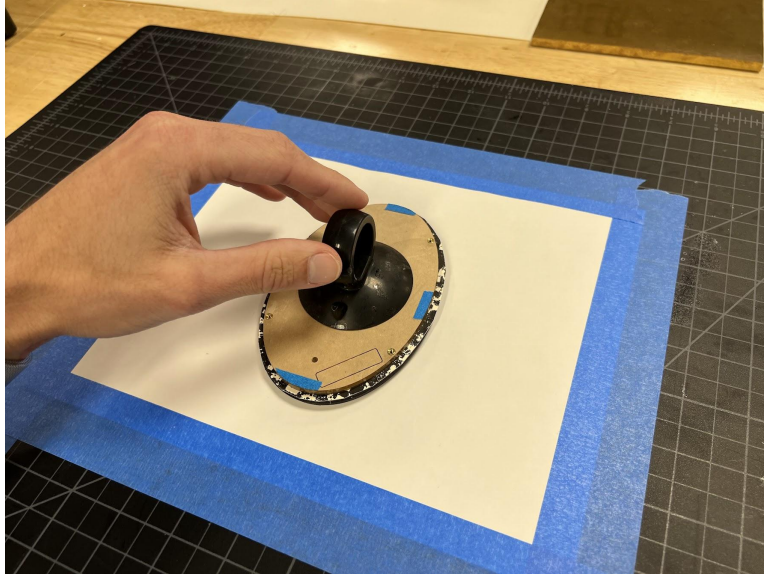

Figure 60: Alignment of bubble module over the sealing band
17. Center the window over the sealing band and gently nudge the sealing band until well aligned. Push the latex and window assembly **straight down** into the sealing band using the suction cup (Fig. 60).